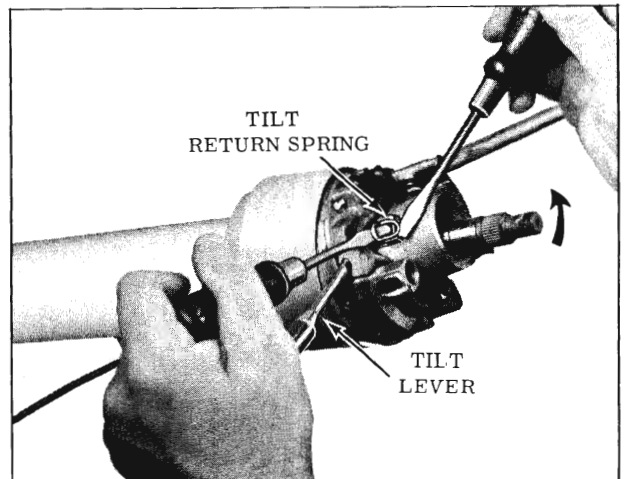

Fig. 4-88 Removing Tilt Return Springs
7. Install the tilt lever and lift up so the column will go to the full up position, then unhook the upper ends of the two tilt return springs by inserting a small bladed screwdriver through the upper coil and lifting up. (Fig. 4-88) It may be necessary to use another screwdriver to unhook the spring as shown. Installer Tool J-21181 may be required to remove the right hand return spring.